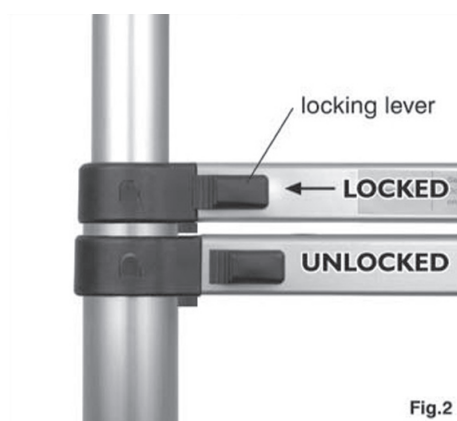

Fig.2
2. Maximum load of ladder/stepladder is 150 kg Fig. 2
- ✿ Each mechanism is connected with a locking lever visible on the outer side (see Fig. 2).